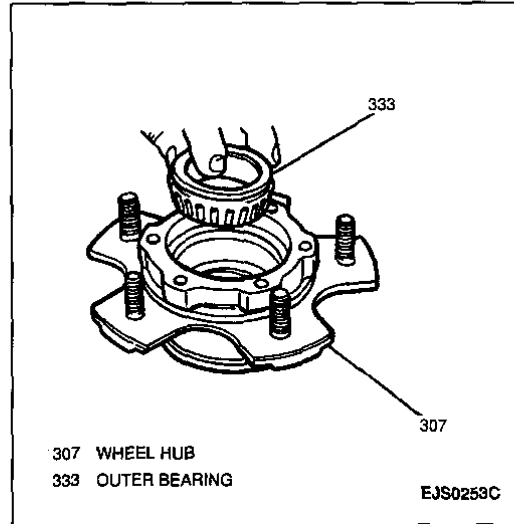

Figure 25—Removing Outer Bearing From Hub
9. Outer bearing from hub (Figure 25).